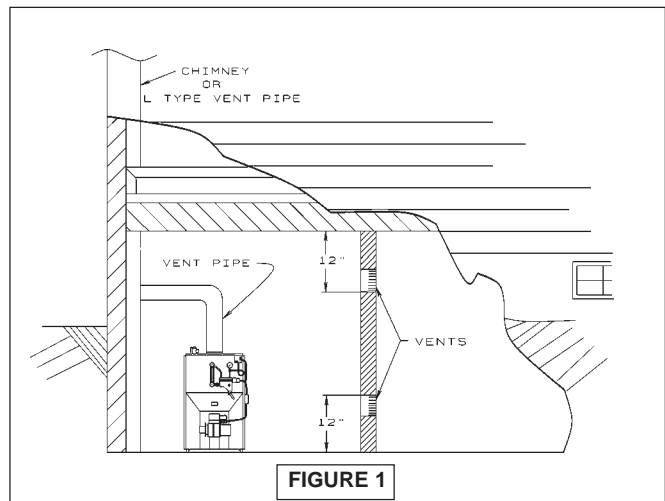

FIGURE 1
4. When air for combustion and room ventilation is from inside buildings, the confined space shall be provided with two permanent openings, one starting 12 inches from the top and one 12 inches from the bottom of the enclosed space. Each opening shall have a minimum free area of 1 square inch per 1,000 BTU per hour of the total input rating of all appliances in the enclosed space, but must not be less than 100 square inches. These openings must freely communicate with the interior areas having adequate infiltration from the outside. (Figure 1)